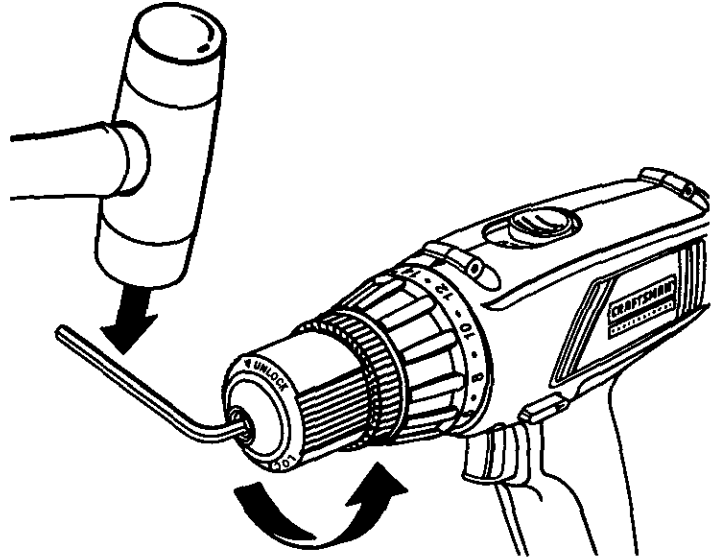

Fig. 16
- Insert hex key wrench in chuck and tighten chuck jaws securely. Tap sharply with a mallet in a counter-clockwise direction. This will loosen chuck on the spindle. It can now be unscrewed by hand. See Figure 16.